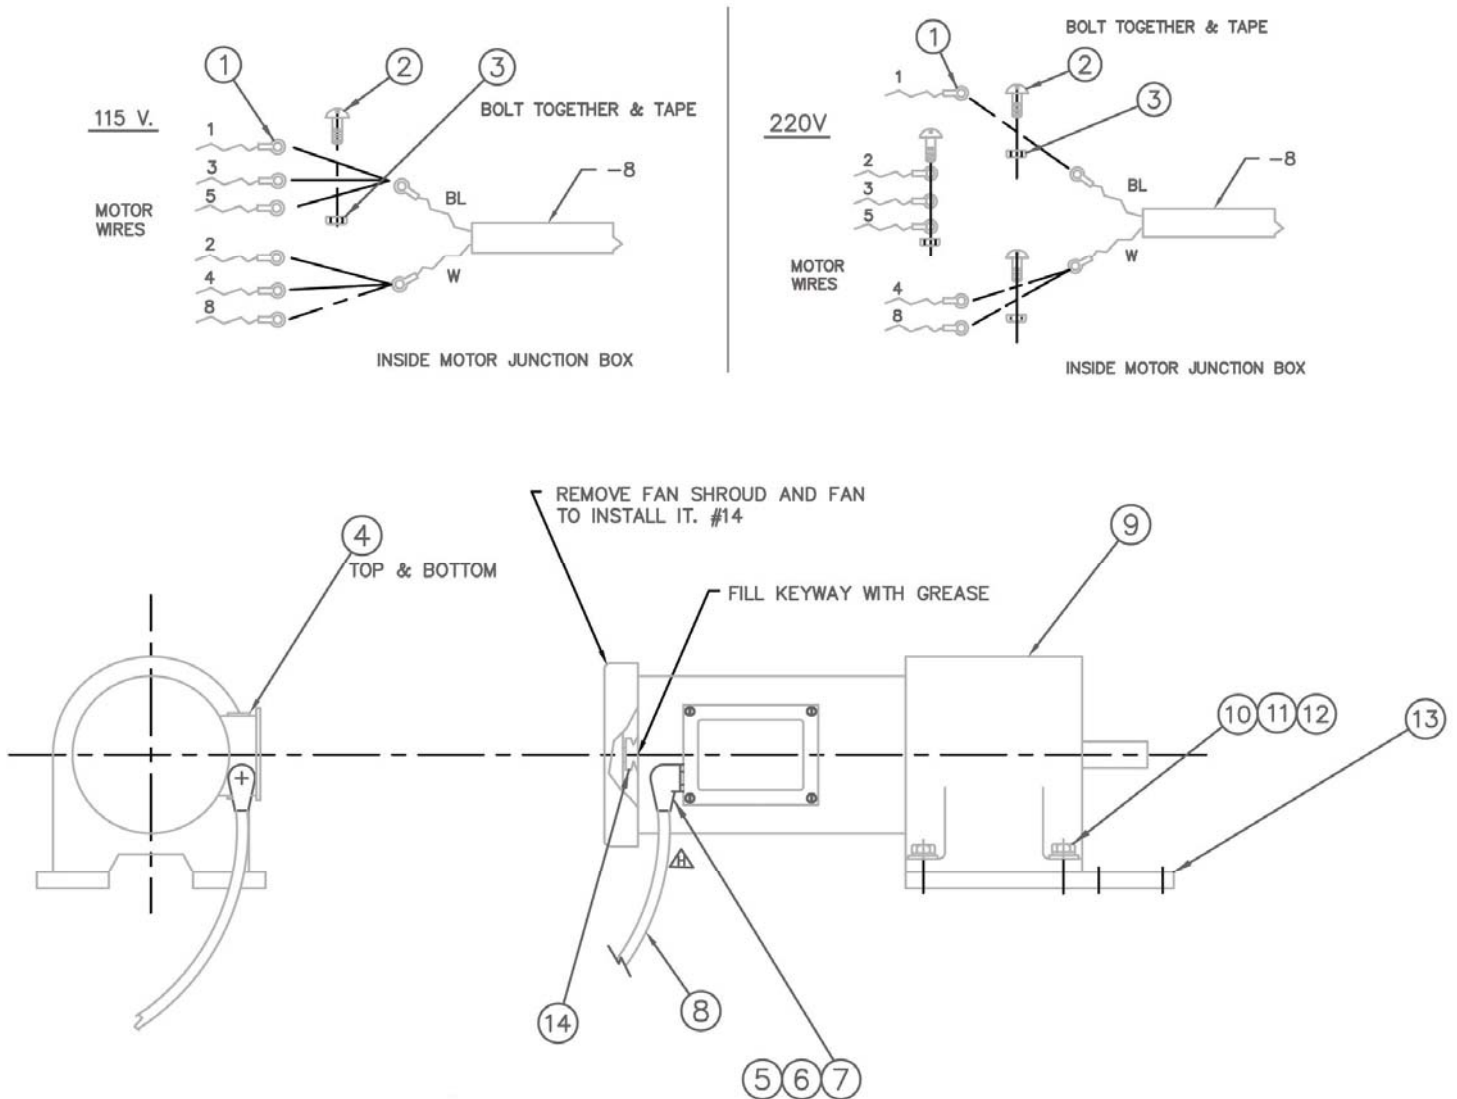

Figure 52. Motor Assembly Parts
Revised February 2008 to show item 5 cord connector in the down position in Figure 52, Page 75.